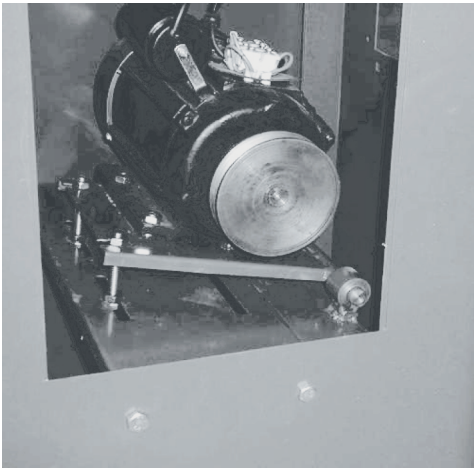

Figure 1. Motor adjusting bolts.
1. Loosen the motor adjusting bolts until you can attach the V-Belt to the pulleys. See Figure 1/A